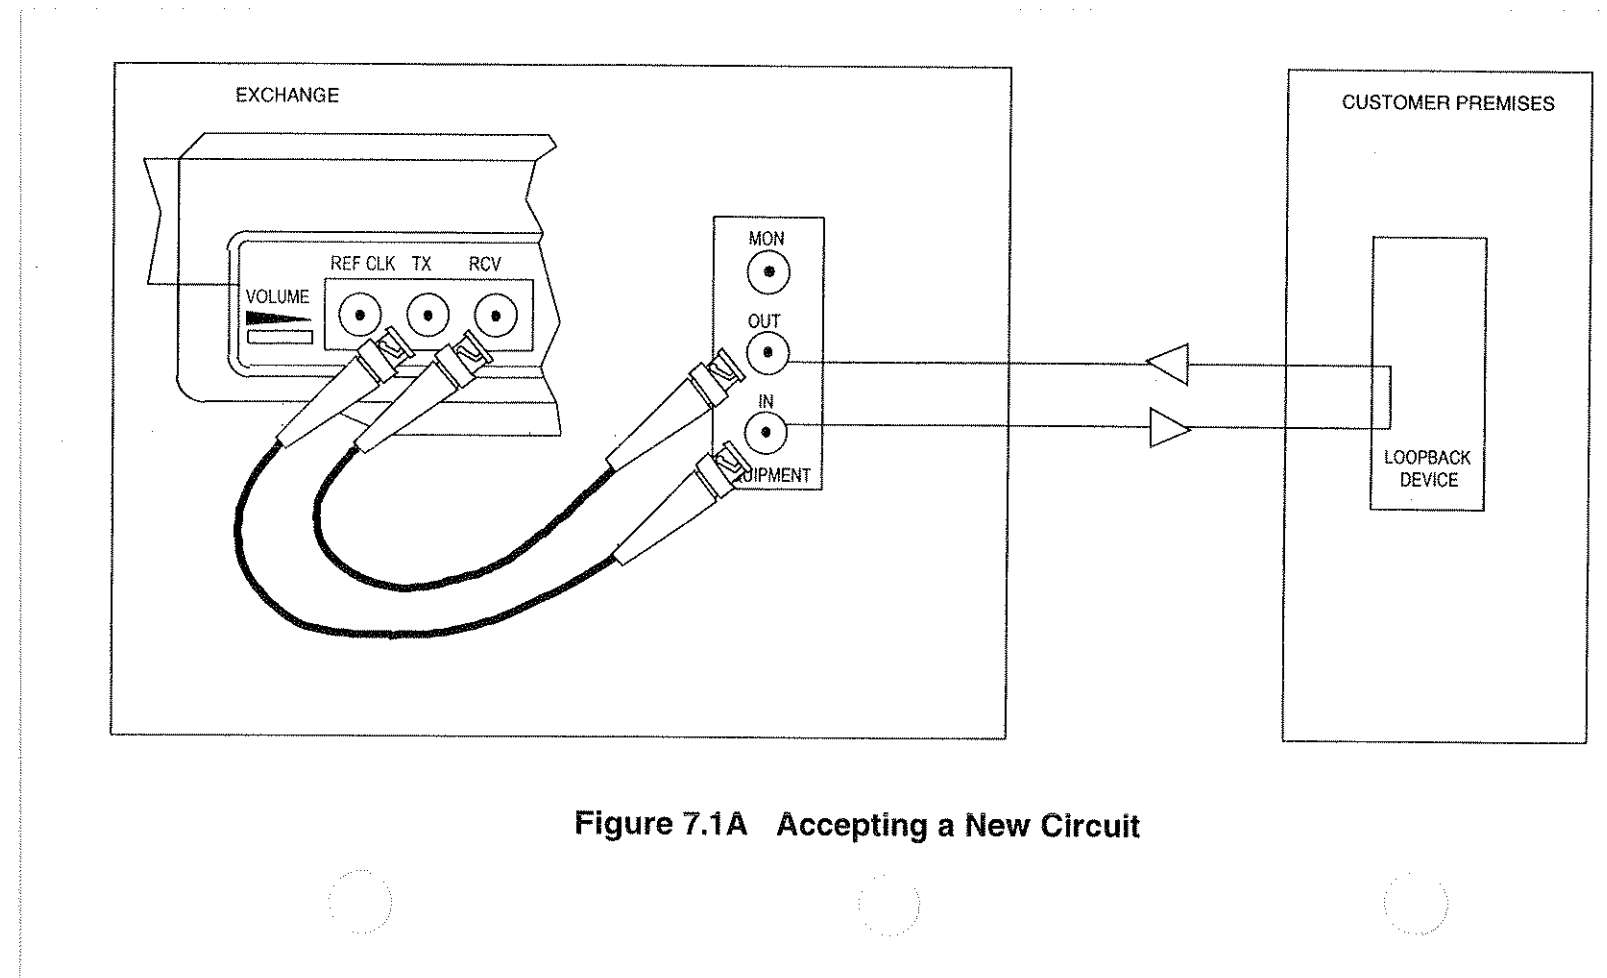

Figure 7.1A Accepting a New Circuit
Here is a procedure for accepting a new circuit. The setup is illustrated in Figure 7.1A.
- 5) Connect the SunSet to the circuit as shown in Figure 7.1A. Press the HISTORY key to acknowledge any blinking history lights and turn them off.